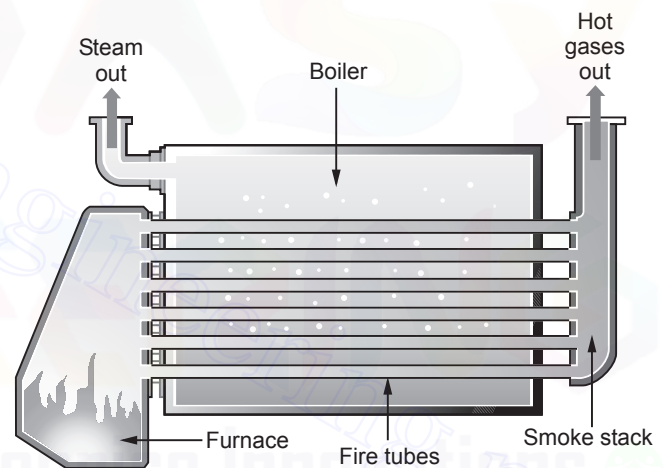

Fig. 2.1 : Fire tube package boiler
- The heat of these gases is transferred through the walls of the tubes by thermal conduction hence heating the water and ultimately creating the steam. Refer Fig. 2.1.